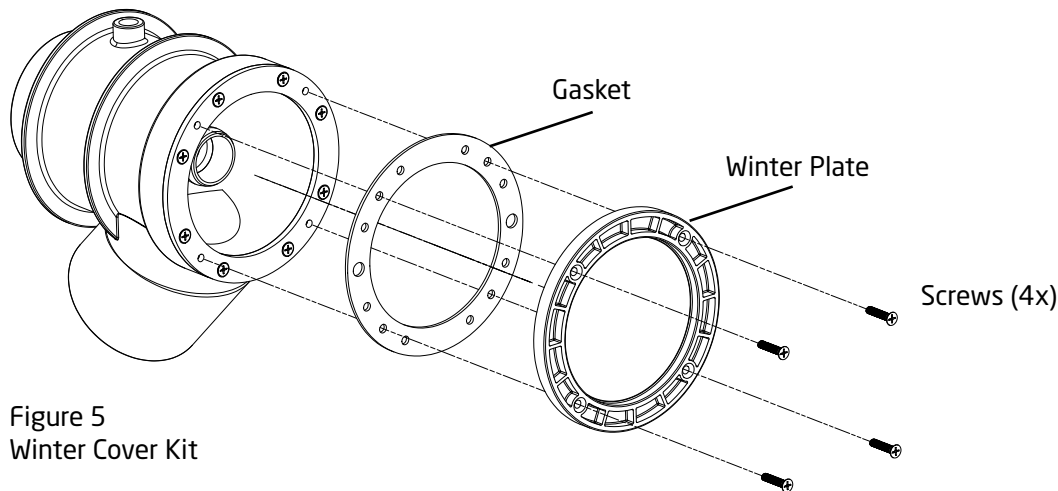

Figure 5
In areas subject to freezing water temperatures, you should protect your equipment. We recommend you purchase a winter cover kit part #2308752006K. This kit includes one (1) winter plate, one (1) gasket and four (4) screws. See Figure 5. Please call your local pool professional to install.